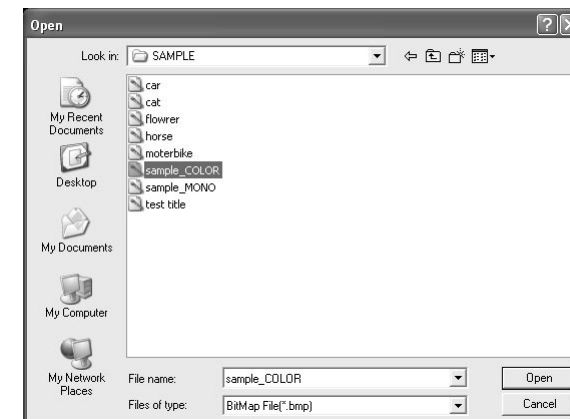

Fig.10 File selection dialogue box
- 3** When the “Open File” button is clicked, the file selection dialogue box shown in Fig.10 appears. Select the image file (BMP, JPG or JPEG) to be transferred, and click “OK”.